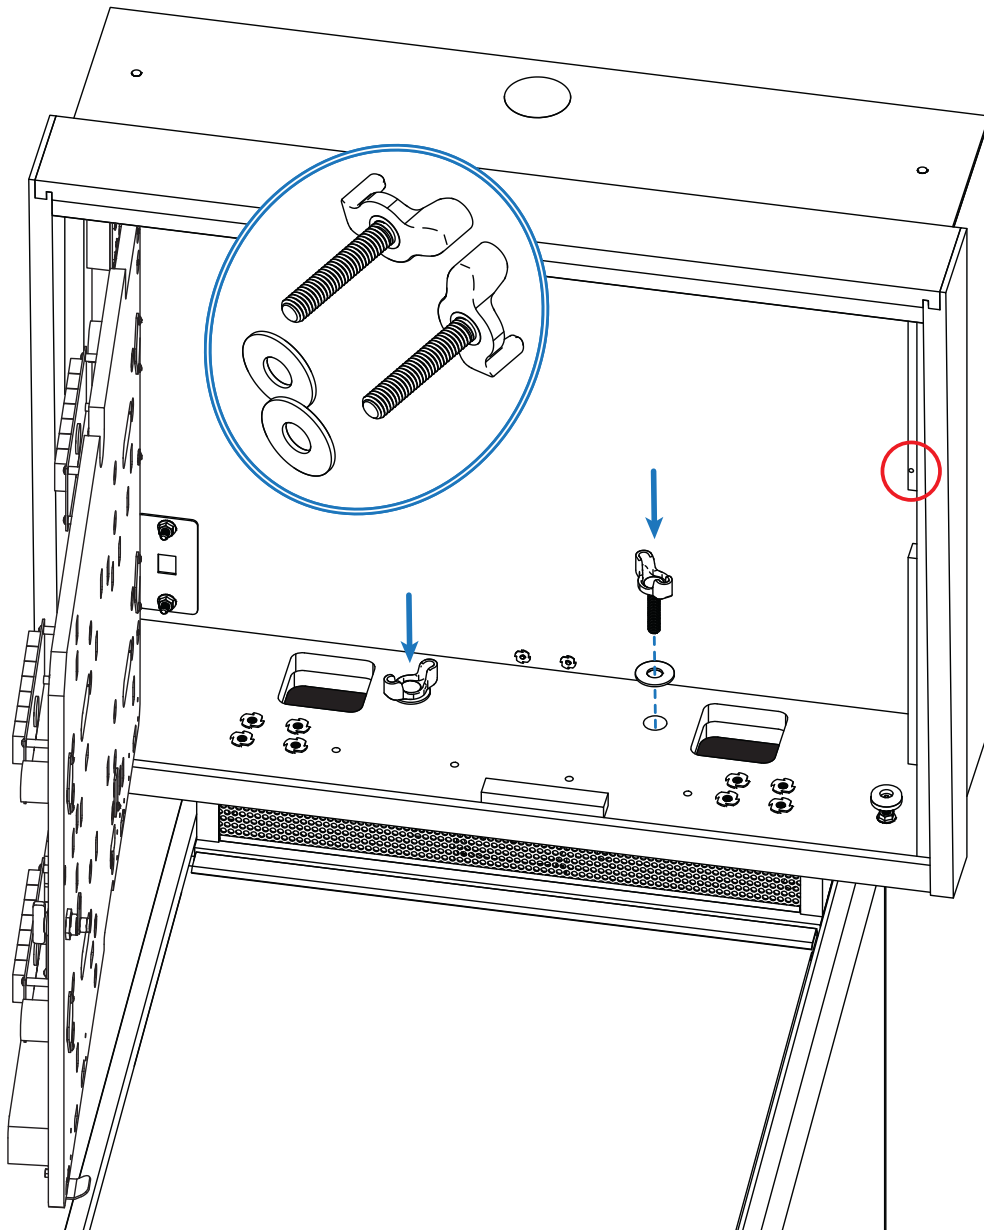

Figure 1-8. Securing the backbox in the upright position.
8) You will find the coin door keys attached to the ball shooter, on the front of the game. Cut them loose with a pair of wire cutters or scissors. Open the coin door, reach inside, remove the hairpin clip holding the cash box to the lower cabinet and remove the cash box from the game. Remove the loose parts from the cash box and compare to the packing list on page 1-2. Retrieve the two backbox wing bolts and washers (inset close-up, figure 1-8) used to hold the backbox shipping cleat in place.
9) Retrieve the backbox keys from the hook on the back of the coin door. Unlock the backbox, then carefully lift the backglass up and out of the game; set it safely aside. Locate the shipping screw & washer holding the insert door closed and remove it. It will be located directly above the insert door latch (red circled area in figure 1-8). Save the screw and washer to reuse when moving your Pulp Fiction game with the backbox lowered. Unlatch and open the insert door. Insert the wingbolts through the washers, then into the two holes in the base of the backbox; thread them into the T-nuts in the cabinet neck assembly, then firmly hand-tighten them down.